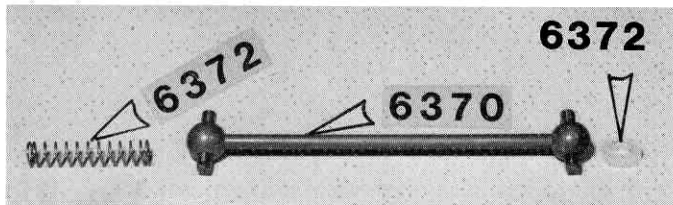

Fig. 87
□ **Fig. 87** Bag #6-8 also contains two #6372 springs and nylon washers as well as two #6370 dogbones. Install one nylon washer in each outdrive on Stealth tranny. (The outdrive is clearly pictured in Fig. 47.)